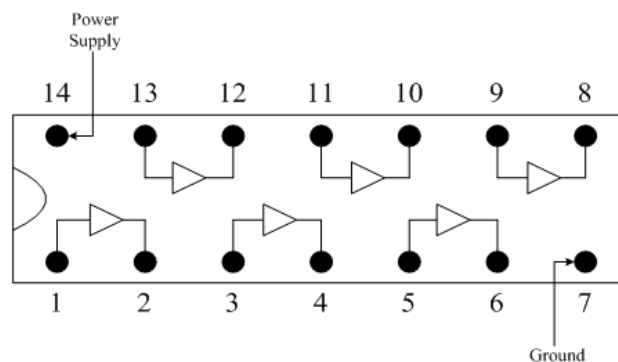

Figure 5: 74ALS04 pin-out
1. Figure 5 shows the pin-out of a 74ALS04 inverter chip. With the IC notch towards left, the pin numbers are counted in a clockwise direction as shown in the figure. The left most pin on the bottom row is pin 1 and the left most pin on the top row is pin 14. Never connect the output of an inverter to supply or ground as this will damage it.